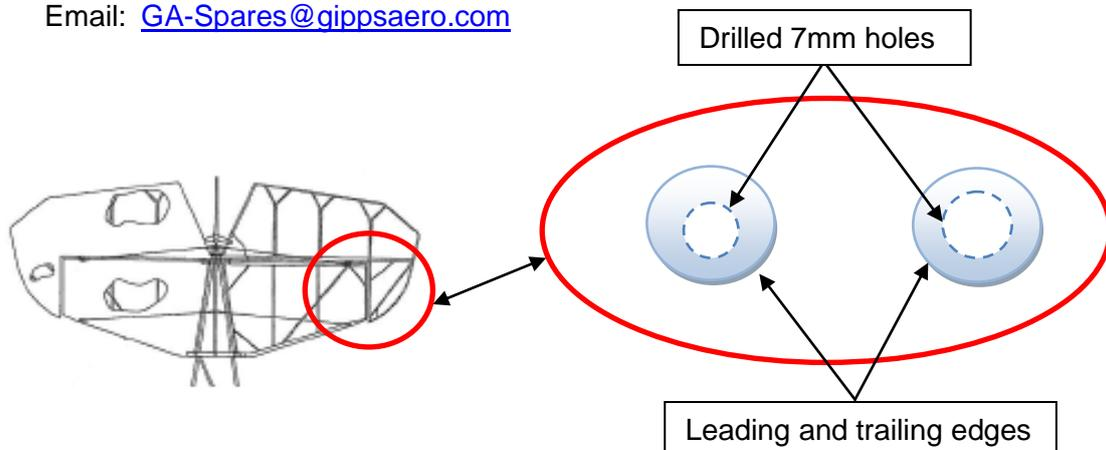

FIG 1
2. Carefully remove the fabric around the end caps of the leading and trailing edge tips.(Fig 1). If this is a repeat inspection, remove plastic caps from inspection holes and proceed to **Step 4**, otherwise action **Step 3**.